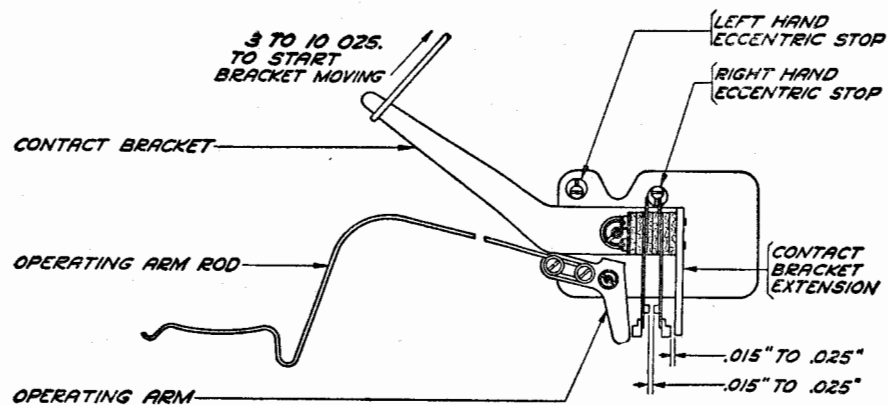

Figure 1
2.03 Contact-bracket Arm: With the contact bracket in contact with its right-hand eccentric screw, it should require a pull of minimum 3 ounces, maximum 10 ounces to start the bracket moving. (See Figure 1.)
2.04 Contact Springs: With the operating arm held away from the left-hand contact-spring insulator, there should be a clearance of minimum 0.015 inch, maximum 0.025 inch between the contact points. Also, a clearance of minimum 0.015 inch, maximum 0.025 inch should exist between the right-hand contact-spring insulator and the extension on the contact bracket. (See Figure 1.)
To Adjust: Loosen the left-hand eccentric-stop mounting screw and position the eccentric stop. Tighten the mounting screw. (See Figure 1.)
To Adjust: Loosen the right-hand eccentric-stop mounting screw and position the stop. Tighten the mounting screw. (See Figure 1.)